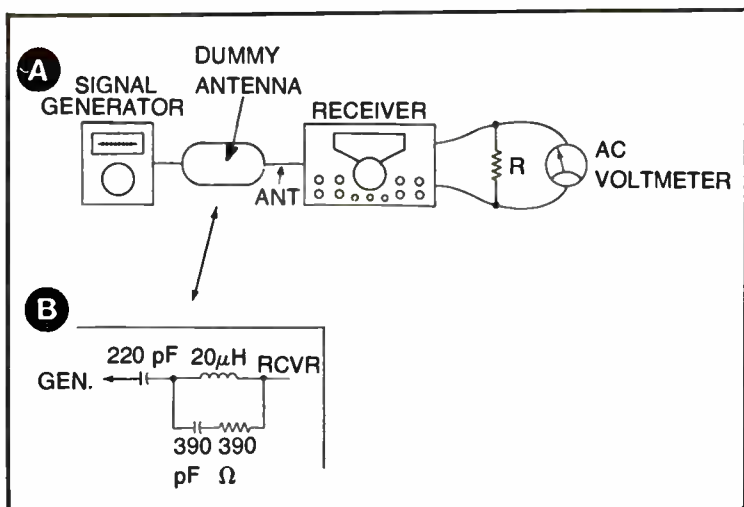

Fig. 4-1. Equipment needed to measure sensitivity by audio power method.
Figure 4-1 shows the basic equipment connections needed to make this measurement. A signal generator is connected to the antenna input terminals through a dummy load. Most receiver manufacturers will specify a given dummy load for this measurement, but if none is available use the circuit shown in Fig. 4-1B for work up to the high end of the HF range.
- Connect the instruments as shown in Fig. 4-1. Adjust the signal generator for 30 percent modulation by a 400-Hz sine wave.
The same equipment setup (Fig. 4-1) will also suffice for the measurement of sensitivity by the quieting method. In this case, however, an rms reading voltmeter is needed, because an oscilloscope is too difficult to read under these circumstances. The signal generator in the quieting method *must* be unmodulated.
- Connect the equipment as in Fig. 4-1. Set the rf output of the signal generator to zero and the modulation to *off* (or *unmod*).
Measure the image response using the equipment connections of Fig. 4-1. The procedure is as follows: